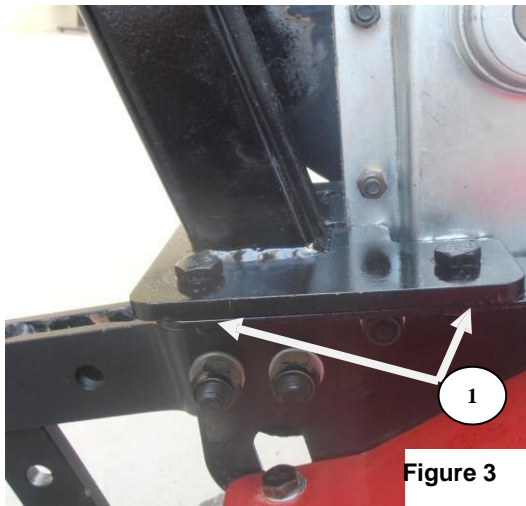

Figure 3
1. Fit the holes of handlebar bracket together with the holes of the cultivator frame (Figure 3, Item 1).